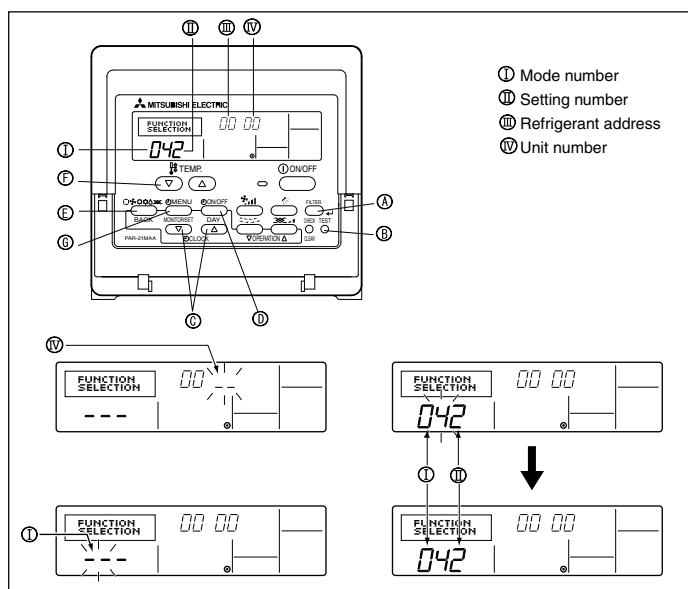

Fig. 6-6
1) For wired remote controller (Fig. 6-6)